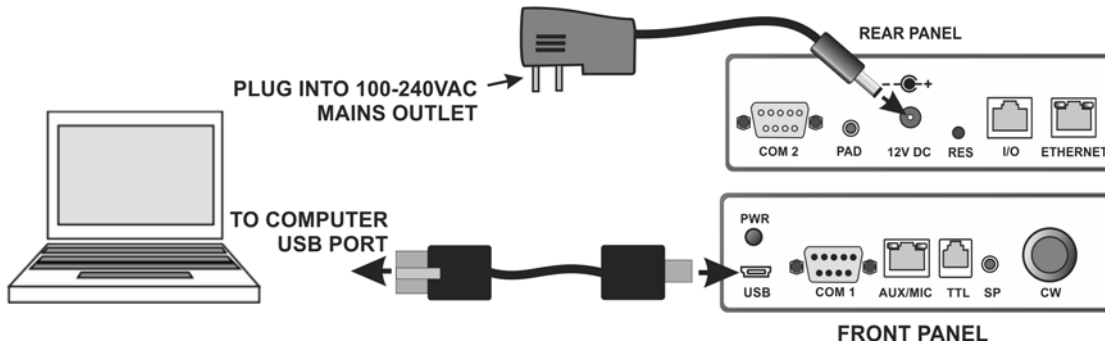

Figure 4
2. Connect your computer and power to *one* of the RRC-1258 units (see Figure 4).